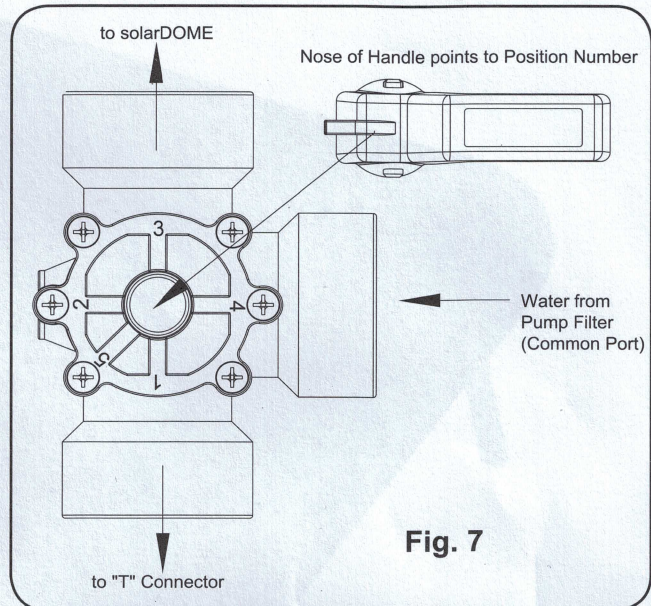

Fig. 7
4. How to use the Diverter Valve (see Fig. 7)